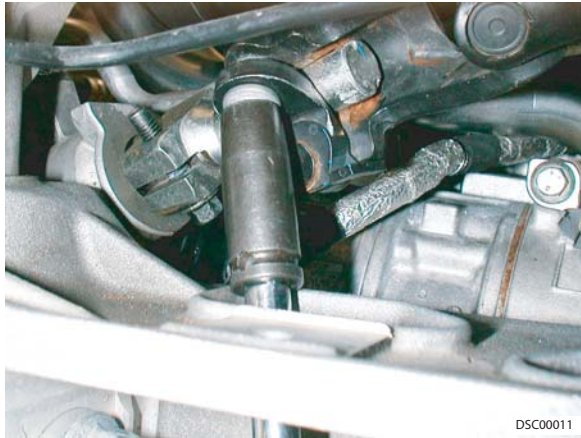

Figure 31
32. Connect steering column link to steering rack (bolt x1) (refer to Figure 31).